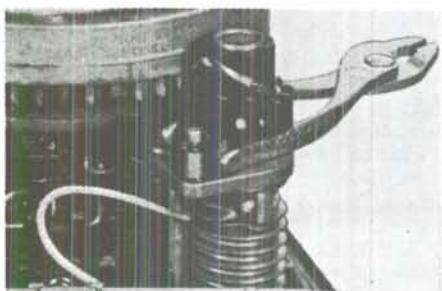
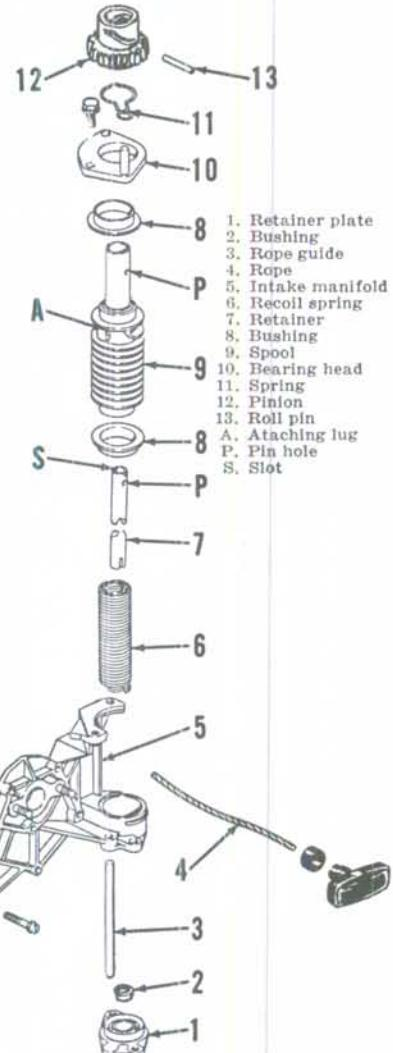

Fig. OM4-14—The starter pinion can be blocked up as shown for removing starter rope.
Fig. OM4-15—Exploded view of recoil starter and associated parts. Intake manifold (5) contains the mounting bracket for starter unit.
Refer to Fig. OM4-15 for an exploded view of starter assembly. Starter mounts on intake manifold as shown, and rope (4) extends through lower motor cover. The suggested procedure for rope renewal differs slightly from that required for other service; proceed as outlined for the type of service contemplated.
R&R STARTED ROPE. To RENEW a worn but still usable starter rope, remove upper motor cover and disconnect both spark plug high tension leads. Pull starter rope until almost fully extended. With rope-end in spool (9—Fig. OM4-15) accessible, block pinion into engagement with flywheel, thus locking the recoil mechanism. Refer to Fig. OM4-14. With starter securely locked, disconnect from rubber grip and lug (A—Fig. OM4-15). Install a new rope by reversing the removal procedure. With rope secured at both ends, remove the wedge and allow starter to recoil. If rope is broken or disconnected, assemble as outlined for service removal.
To renew a broken rope or reconnect starter rope after service, proceed as follows: Insert a heavy-duty screwdriver or brace with screwdriver bit through top of pinion (12—Fig. OM4-15) and spool (9) and into slot (S) in top of spring retainer (7). Turn screwdriver or brace counter-clockwise approximately $1\frac{1}{2}$ turns until anchor (A) in spool is easily accessible; then engage pinion (12) in teeth in flywheel ring gear and lock the assembly by inserting a suitable block or wedge between pinion and upper bearing head. Refer to Fig. OM4-14. Thread the rope through hole in anchor (A—Fig. OM4-15), making sure rope is properly positioned behind rope guide (3); then reinstall the grip. Remove the previously installed locking block and allow starter to slowly recoil.